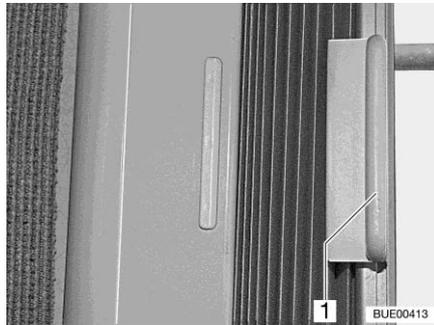

Fig. 43 Roman shade (side window)
- Opening and closing: ■ Grasp the handle (Fig. 43,1) of the Roman shade and slide to the left or the right.